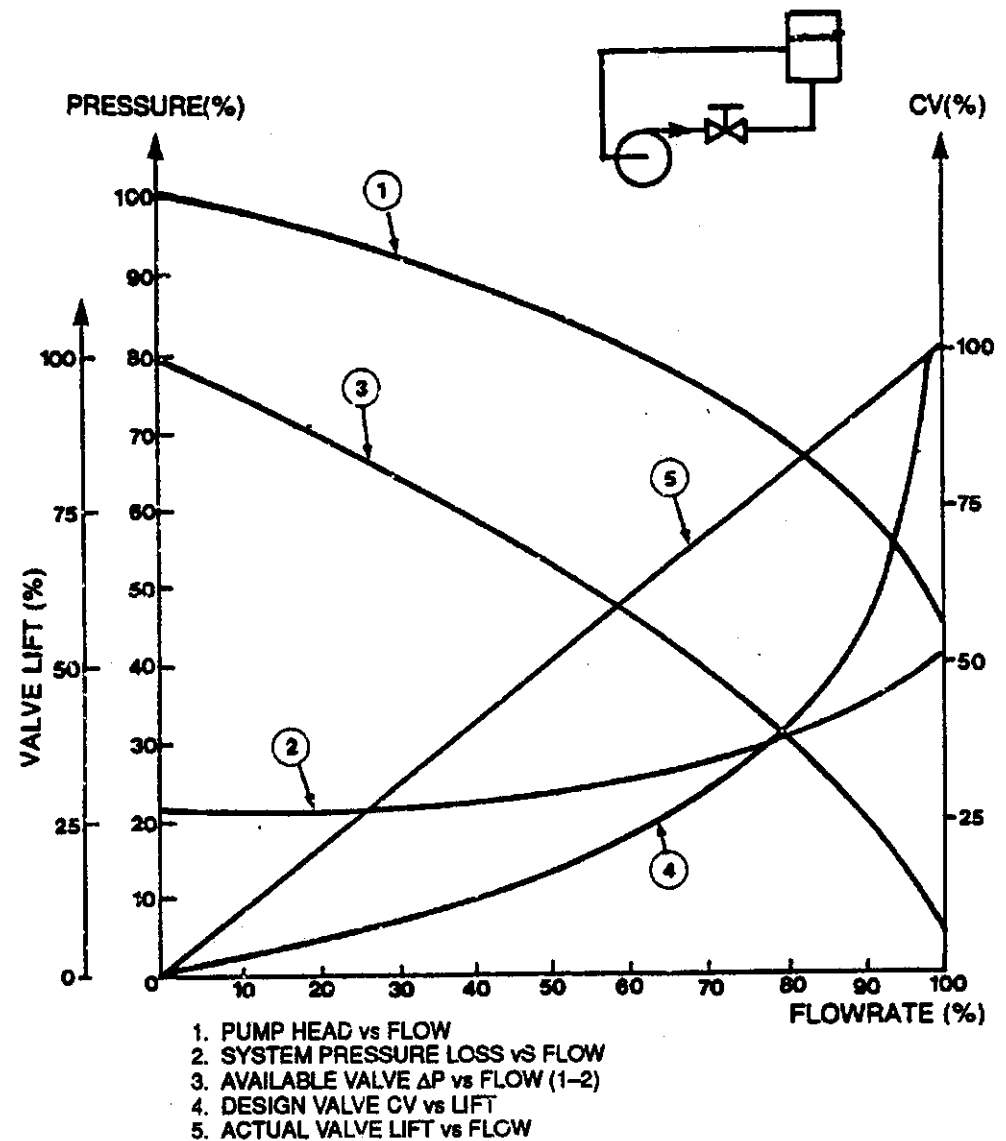

Figure 13: A Typical Pump Head Curve With Losses.
- Equal percentage valves are used in situations where there is a highly varying pressure drop (ΔP) across the valve. Figure 13 shows a typical centrifugal pump discharge pressure head curve with associated pressure loss.
- From Figure 13, it can be seen that the difference between the pump head curve (line 1) and system pressure loss (line 2) curve is the pressure (ΔP) that is allocated to the valve, (line 3). In this case, ΔP decreases rapidly as flowrate increases.